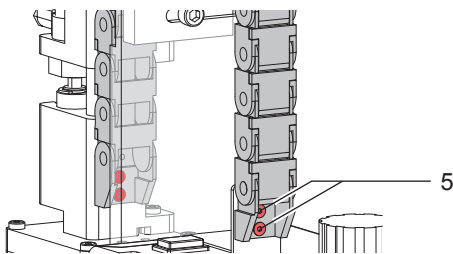

Figure 16 Dismount energy track - Sensor labeling position
- ▶ Loosen screws (5) to dismount the energy track on one side only.
- ▶ Detach the into one another looked divide in T-form (7) from the divide in U-form (6) of the energy track. (Figure 16)
- ▶ Close the energy track again. Press in the T-form (7) pieces into the U-form (6) pieces.
- ▶ Mount the energy track and tighten the screws (5).